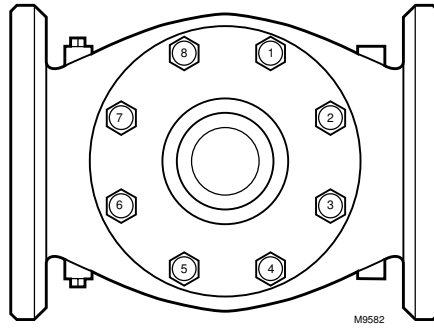

Fig. 3. Replacement V5055B/V5097B 4-inch valve bonnet assembly .
8. After positioning the bonnet assembly, replace the screws removed in step 5 (see Fig. 3).
NOTE: When replacing the bonnet assembly on the 4-inch valve, be sure to draw it evenly into the valve body. Finger tighten the eight screws. Draw the bonnet assembly into the valve by tightening, in order, screws 1,5,7, and 3 (two turns each). See Fig. 3. Repeat until the bonnet assembly is seated. Tighten the remaining screws.